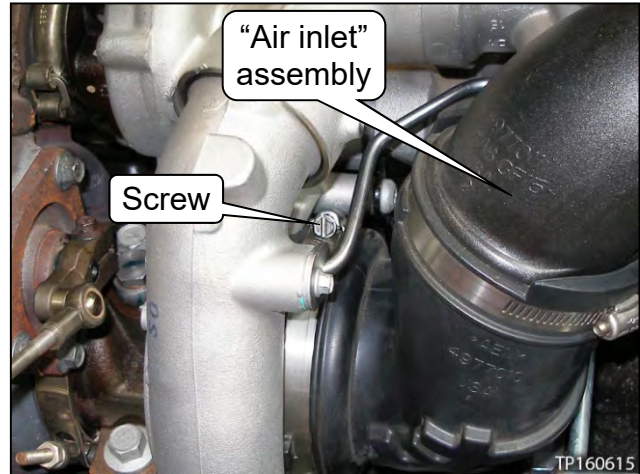

Figure 71
14. Remove the cap from the low pressure turbocharger, and then install the air inlet connection assembly (see Figure 71).